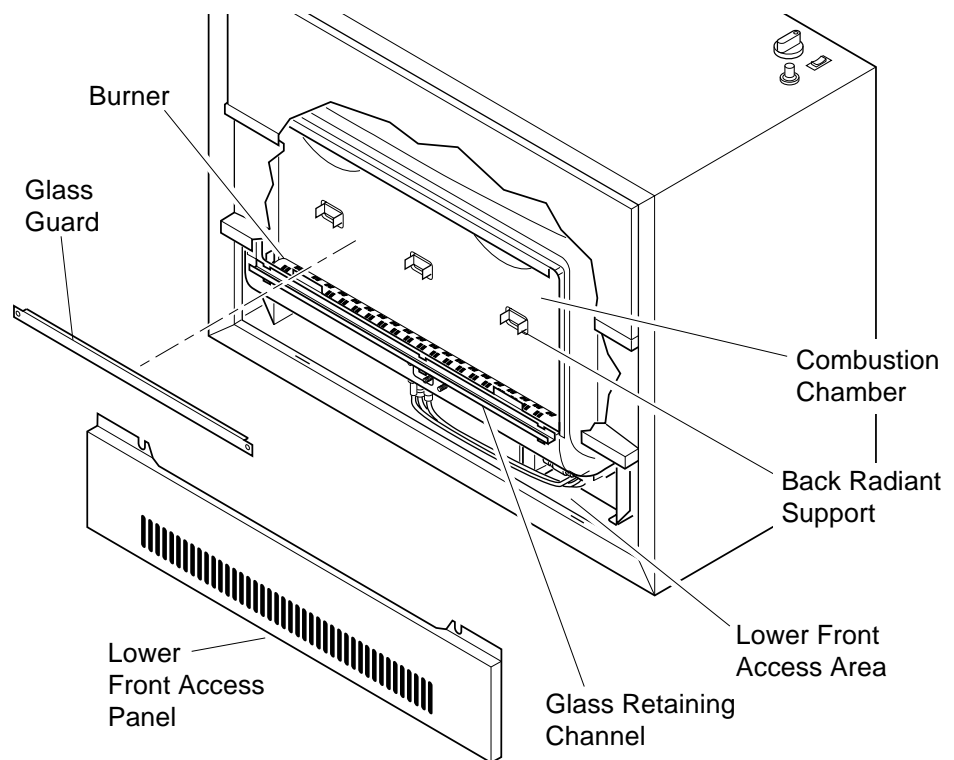
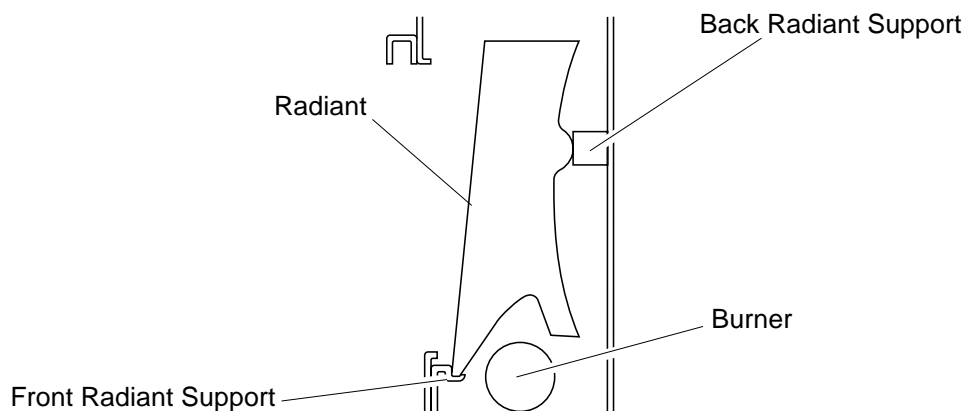

Figure 9 - Location of Radiants
Figure 10 - Position of Radiant
1. Remove glass guard from across opening at front of heater (see Figure 9).
2. Place radiants into combustion chamber through opening at front of heater. Front of radiant sits on front radiant support (see Figure 10). Back of radiant rests on back radiant support (see Figures 9 and 10).
2. Remove lower front access panel of heater by removing two screws at upper corners of panel. The lower front access panel covers the lower front access area (see Figure 9, page 14).